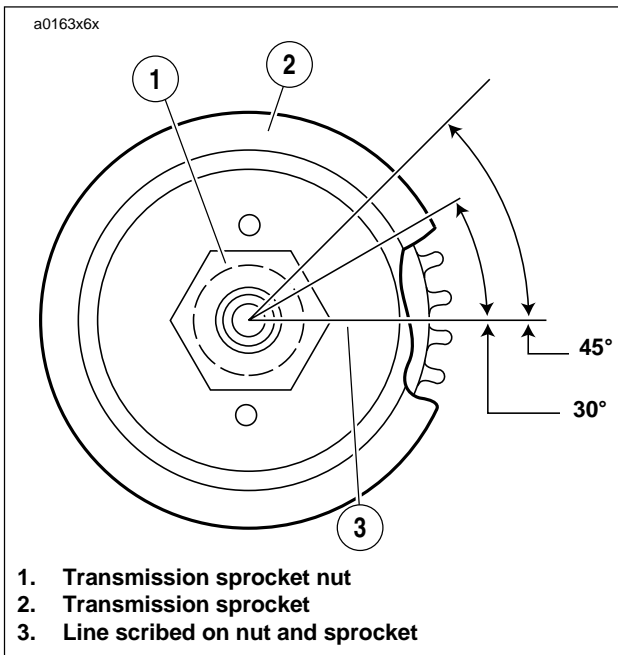

Figure 6-58. Aligning Transmission Sprocket
7. See Figure 6-58. Scribe a line on the transmission sprocket nut and continue the line on the transmission sprocket as shown.
- See Figure 6-58. If lockplate will not align with holes, tighten nut to 45° maximum.